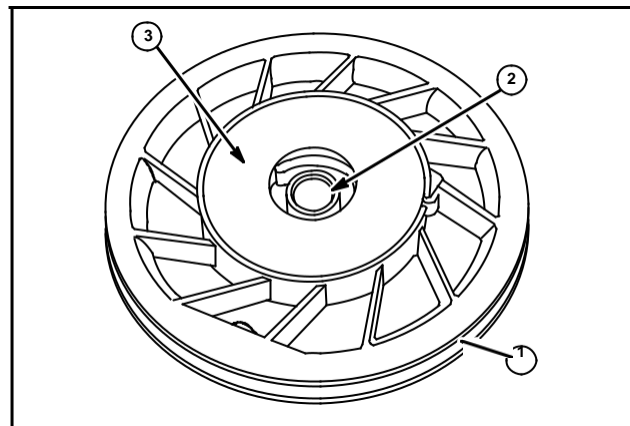

Fig. 44
Inspect pulley for cracks, rough edges, or burrs in pulley groove (1), wear or cracks in center hole (2) or loose spring retainer (3), Fig. 44. Replace pulley if damaged or worn.